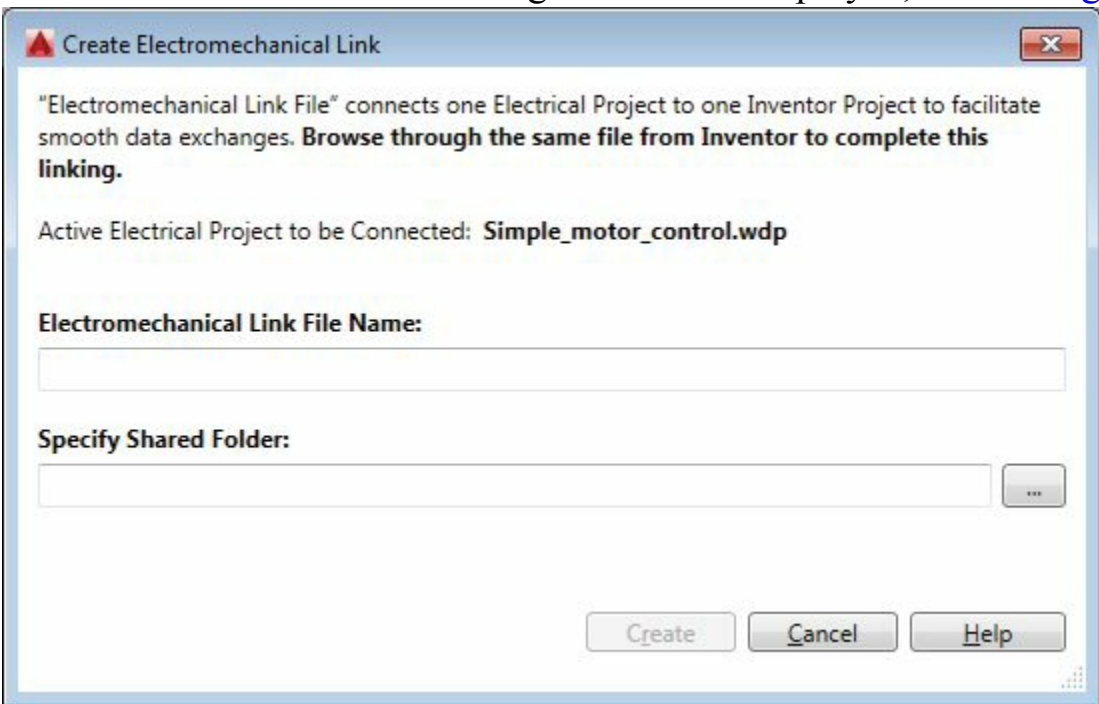

Figure-4. Create Electromechanical Link dialog box
- Click on the **Create** button from the **Electromechanical Link Setup** dialog box. The **Create Electromechanical Link** dialog box will be displayed; refer to Figure-4.